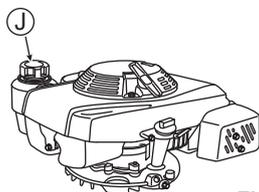

Fig. 8
1. Open Fuel tank cap (J) and refuel gasoline. Immediately wipe off with a rag if gasoline is spilled. (See Fig. 8)
2. Firmly close Fuel tank cap (J) after refueling.